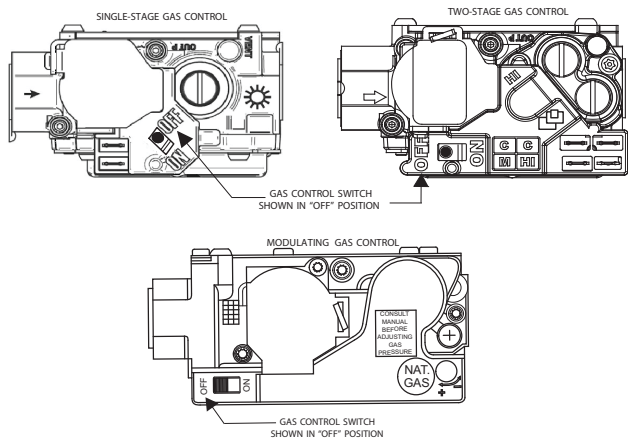

Fig. 11 – Control Switch to OFF
5. Turn the control switch on the gas control to the OFF position and wait five minutes. See Fig. 11. Then smell for gas, including near the floor. If you smell gas, **STOP!** Follow “B” on furnace label. If you don’t smell gas, go to next step.
5. Turn control switch on the gas control to "OFF" position. See Fig. 11.